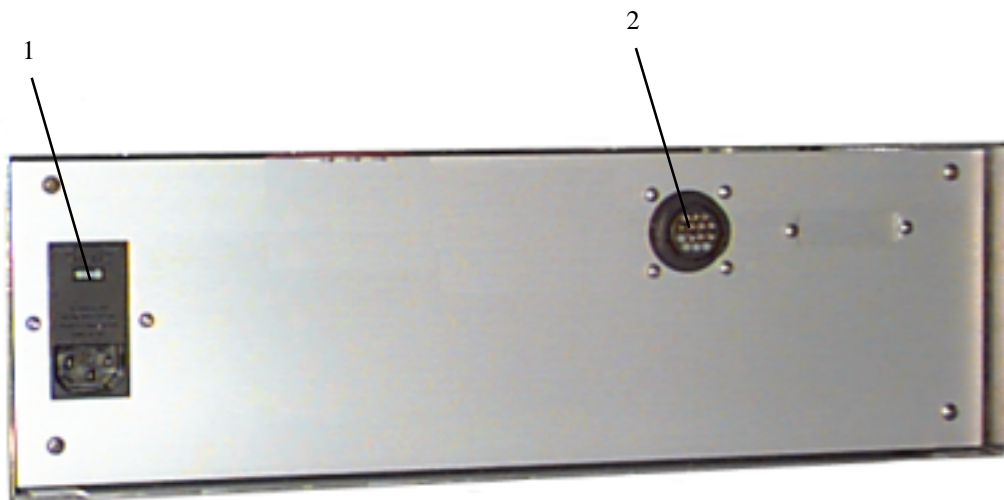

Figure 3.2 OX Controller Module Rear Panel
3.1.2 Rear Panel Detail (Figure 3.2)
3.1.2.1 Power Entry Module (Figure 3.2 Item 1)
3.1.2.2 Pump Connector (Figure 3.2 Item 2)